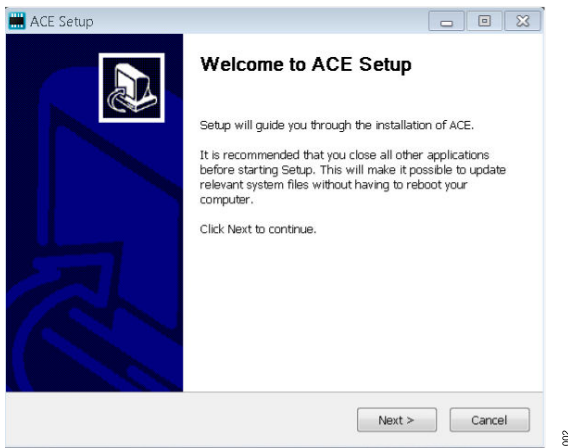

Figure 2. Evaluation Software Install Confirmation
4. Click **Next >** to continue the installation, as shown in Figure 2.